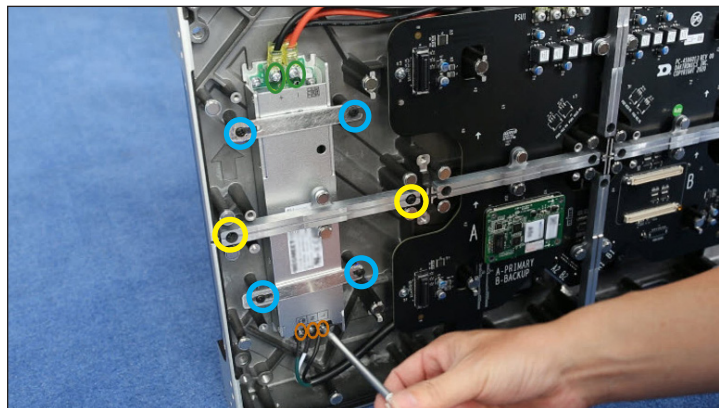

Figure 27: Remove Power Supply
2. Remove the three screws (circled in orange in **Figure 27**) for the AC harness.
3. Remove the two screws (circled in green in **Figure 27**) for the DC harness.
4. Remove the two screws (circled in yellow in **Figure 27**) securing the support bar.
5. Remove the four screws (circled in blue in **Figure 27**) securing the power supply strips and bridge bracket, and then remove the power supply.